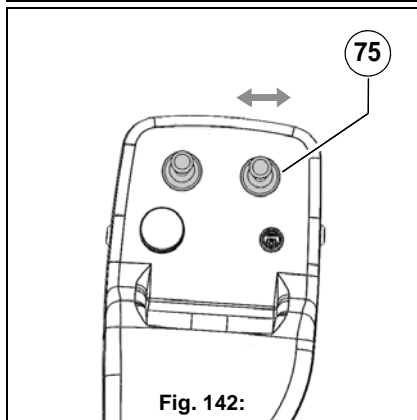

Fig. 142:
- Press the tip switch **Fig. 142-C** and simultaneously move the joystick **Fig. 142-75** to the right – the right-hand rotating brush tilts downwards.
Press the tip switch **Fig. 142-C** and simultaneously move the joystick **Fig. 142-75** to the left – the right-hand rotating brush moves back to the starting position.